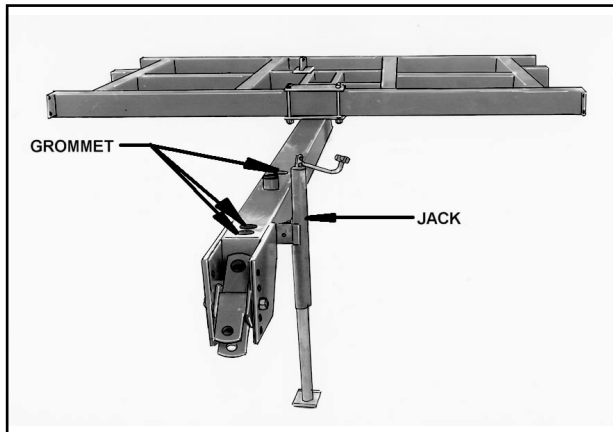

Figure 3-3 - Hitch and Jack
- 3-4.5** Attach jack to hitch and extend to floor (**See Figure 3-3**).
- 3-4.8** Install plastic grommet around holes (**See Figure 3-3**) for hydraulic hoses.